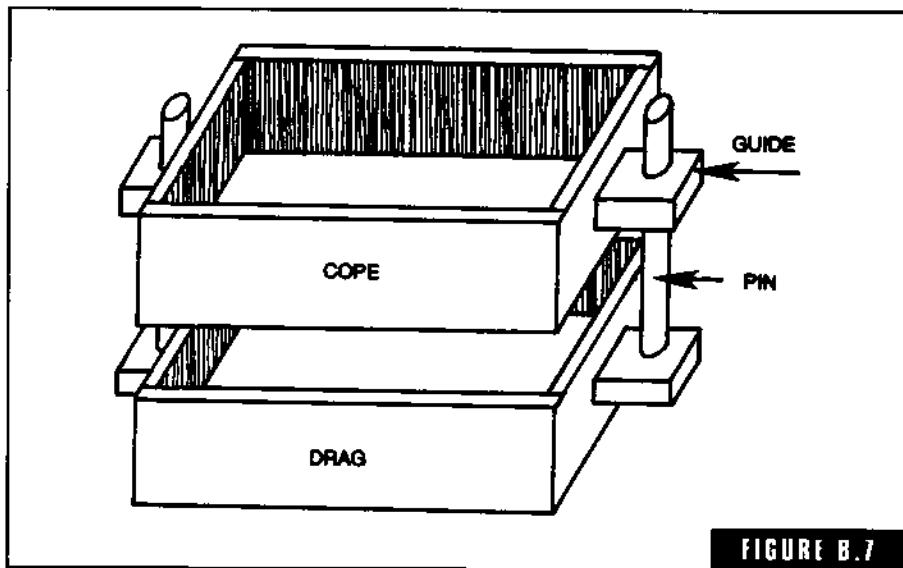

FIGURE B.7
**basic flask** The top frame of the flask is called the *cope* and the bottom frame is called the *drag* (Fig. B-7). In some molding operations you need one or more sections between the cope and the drag. These sections are called *cheeks*.